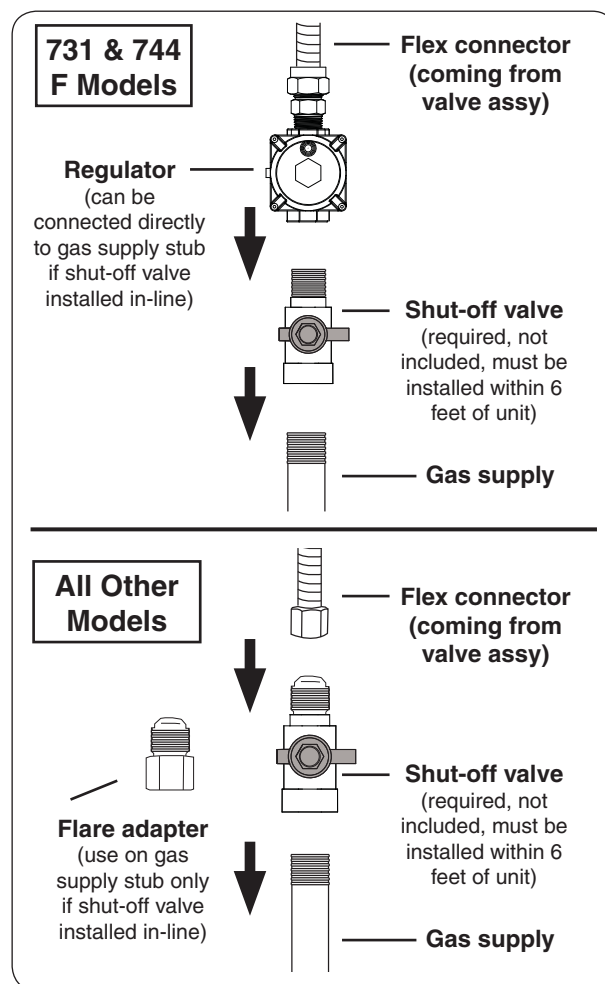

Fig. 25-1 Connecting to a gas line
- Connect the regulator (on end of flex connector) to the shut-off valve OR gas supply using a pipe joint compound resistant to all gasses (see Fig. 25-1). Tighten securely.
- Connect the flex connector to the shut-off valve (see Fig. 25-1). Tighten securely.
- Install the supplied flare adapter to the gas supply using a pipe joint compound resistant to all gasses (see Fig. 25-1). Tighten securely.
- Connect the flex connector to the flare adapter (see Fig. 25-1). Tighten securely.